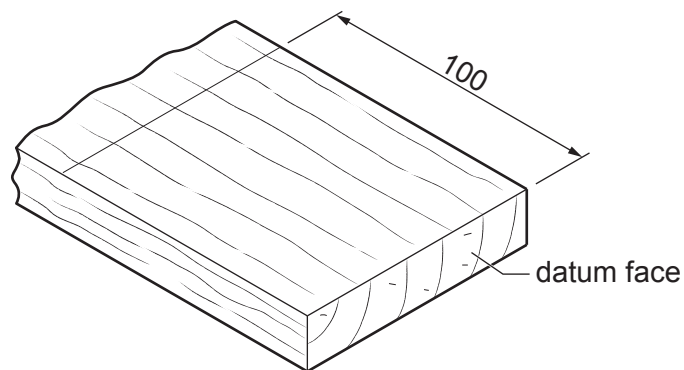

Fig. 4.1
- 4 Fig. 4.1 shows a hardwood block with a line measured and marked out 100 mm from the datum face.